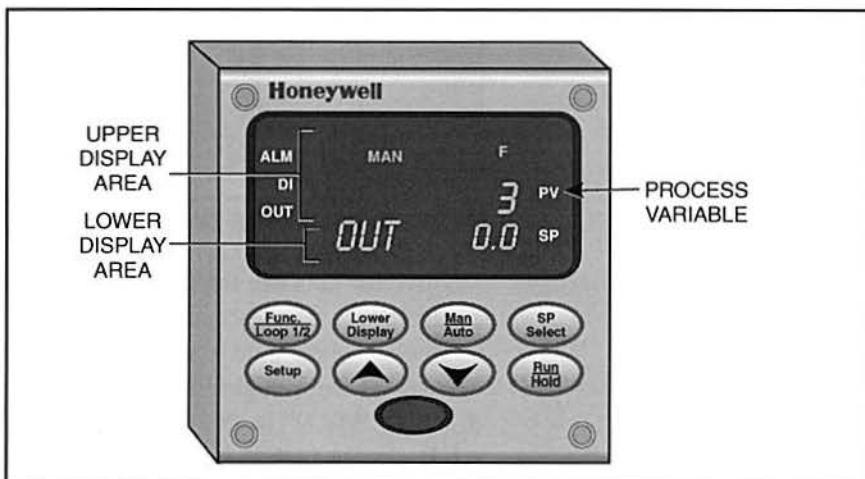

Figure 25. Honeywell Controller in the Control Display Mode
While in the control display menu, pressing the Lower Display key repeatedly scrolls through various display parameters in the lower display area. Common display parameters found in the lower display area include the setpoint (SP) value, the deviation (DEV) of the PV from the SP, and the output (OUT) of the controller. For example, figure 25 shows the controller indicating the output in the lower display area. Diagnostic messages also appear in the lower display area.